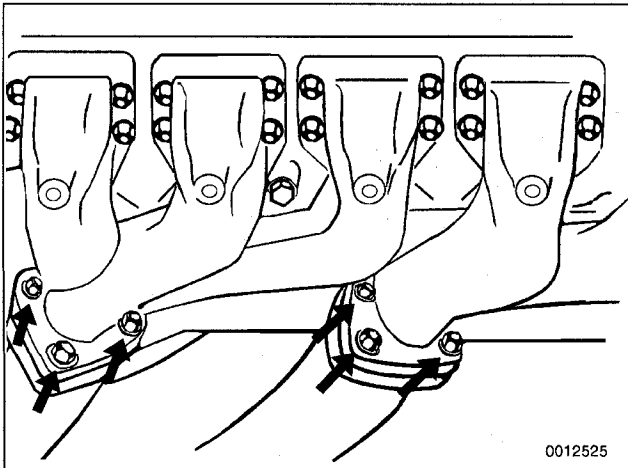

Fig. 16. Front exhaust pipe to exhaust manifolds mounting nuts on 6-cylinder engine (**arrows**).
24. Remove front exhaust pipe from exhaust manifold. See Fig. 16.